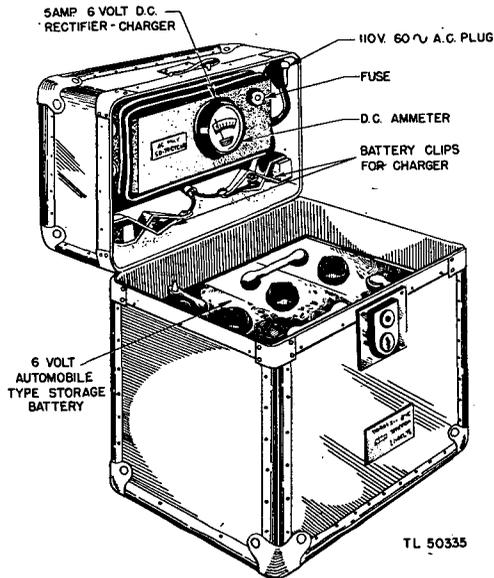

Figure 7. Power Supply PE-150.
*c. Power Supply PE-150* (fig. 7). (1) Power Supply PE-150 is not furnished with Facsimile Equipment RC-120-A and RC-120-B, but these models can be operated from a 6-volt storage battery.
(2) With models of Facsimile Equipment RC-120 with which Power Supply PE-150 is furnished, the power supply is shipped in two units. The carrying